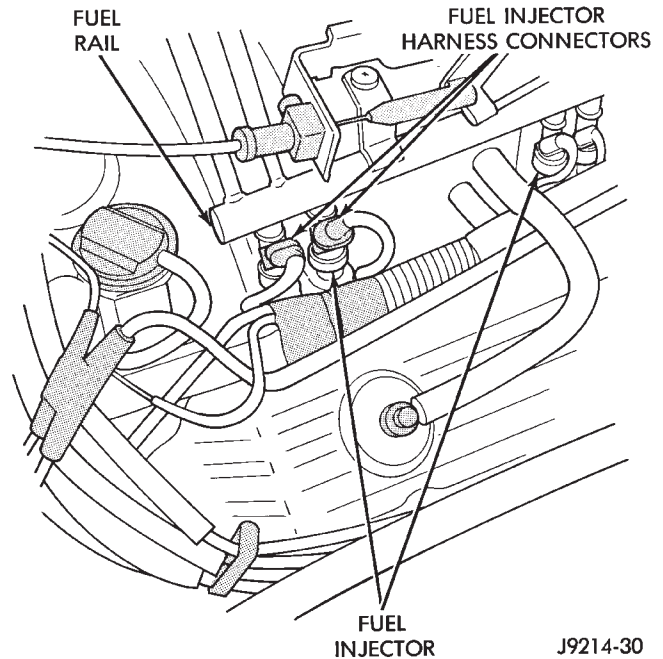

Fig. 32 Fuel Injector Connectors—Typical
- (6) Disconnect electrical connectors at all fuel injectors (Fig. 32). The factory fuel injection wiring harness is numerically tagged (INJ 1, INJ 2, etc.) for injector position identification.
- (7) Disconnect fuel tube (line) at side of fuel rail. Refer to Quick-Connect Fittings for procedures,